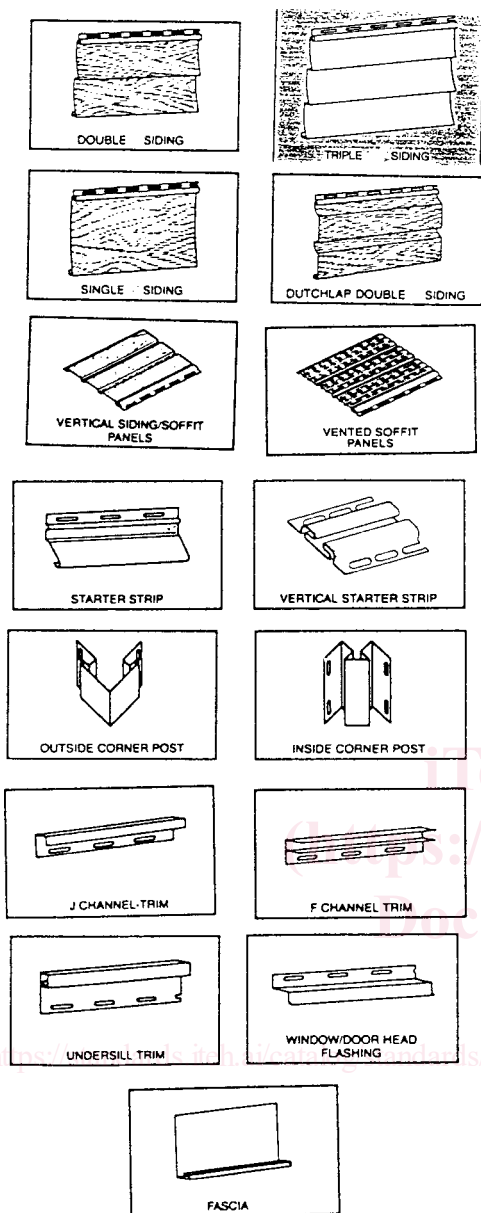

FIG. 5 Typical Trim Products
7.4.3 *Trim Channels*—Produced of poly(vinyl chloride) in a variety of designs and sizes for use around openings and edges of wall and soffit surfaces. (See Fig. 5.)